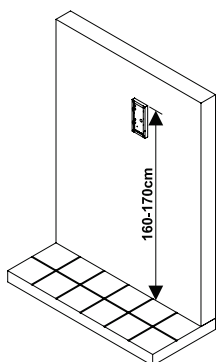
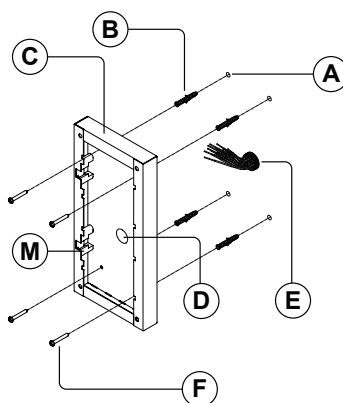

Fig. 51
Fig. 52
1. Place the surface box against the wall (165-170cm between the top of the box and the floor level as shown in **Fig.51**) and mark the fixing holes **(A)** for the wall plugs **(B)** and the hole for the cables **(E)** (**Fig.52**). Observe the orientation of the surface box with the hinge mount **(M)** on the left;
2. As shown in **Fig.52**, drill the fixing holes **(A)**, insert the wall plugs **(B)** and feed the cables **(E)** through the surface box opening **(D)**, fix the surface box **(C)** to the wall using the screws **(F)**;